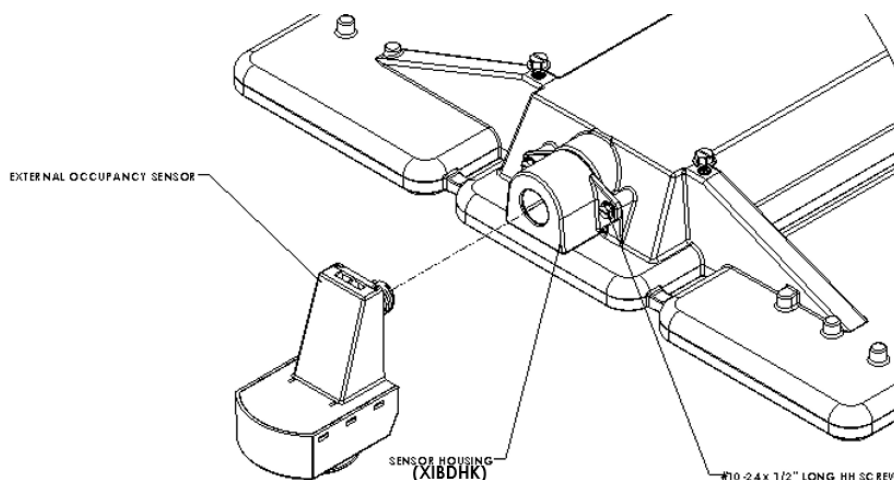

Figure H.1: Snap-In Sensor
- 2) Install external occupancy sensor to fixture by snapping into sensor housing as shown in the figure H.1 below.